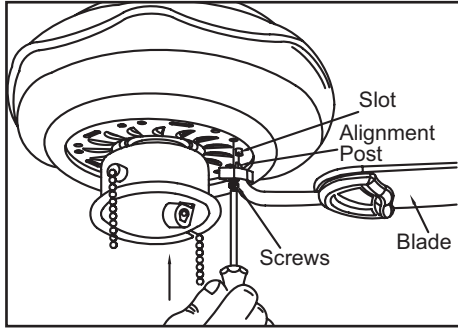

Figure 15
3. Fasten the blade assembly to the motor by inserting the alignment post into the slot on the bottom of the motor and tightening the blade bracket screws. Please note that the blade bracket screws are pre-installed into the blade bracket (Figure 15).